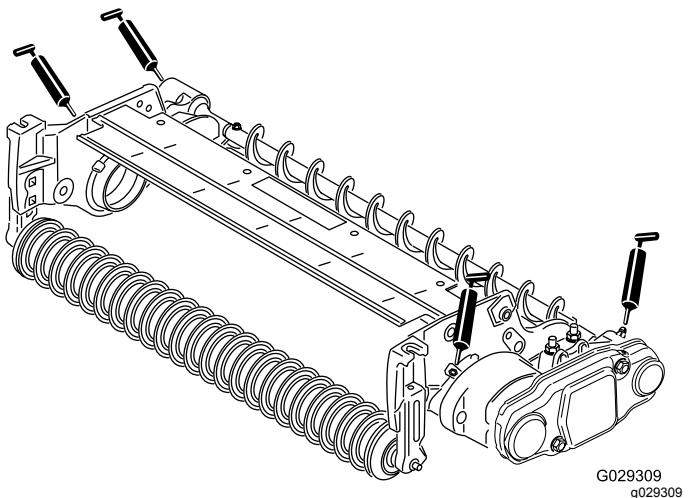

Figure 19
26. Lubricate the grease fittings on each of the roller-brush-bearing housings and on the remainder of the cutting unit with No. 2 lithium grease (Figure 19).